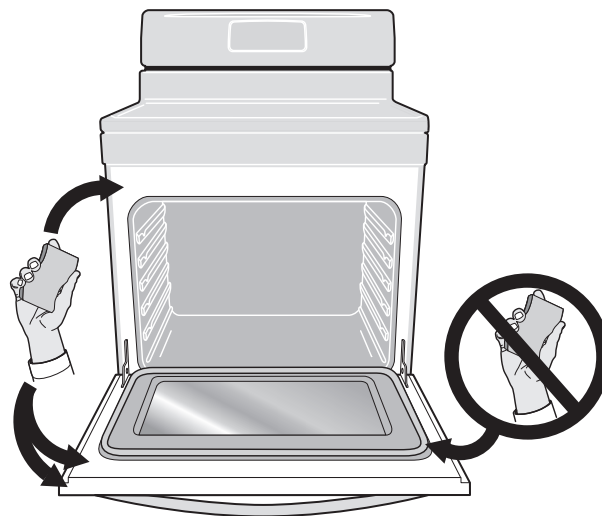

Fig. 13 Areas to clean and to avoid
- Do not use oven cleaners or oven protective coatings in or around any part of the oven interior. Clean any soil from the oven frame, the door liner outside the oven door gasket and the small area at the front center of the oven bottom (Fig. 13, on page 19). These areas heat sufficiently to burn soil on. Clean using soap and water prior to starting Self Clean.